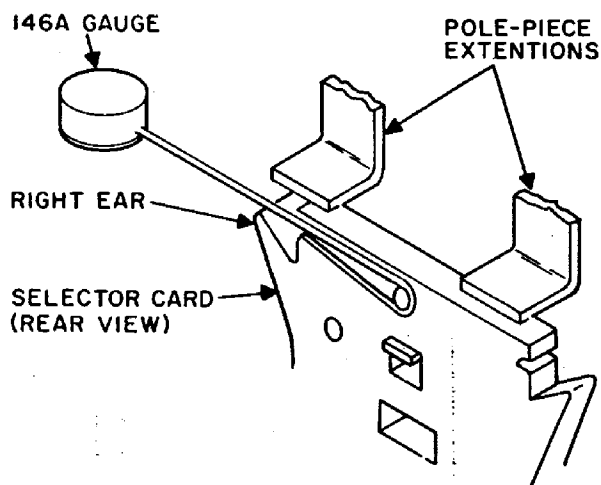

Figure 5. Use of 146A Gauge for Bias Margin Test.
- (1) To test collect operation, place WECO 146A gauge on the right side of the selector card as shown in Figure 5. Push the relay leads aside so that the gauge can move freely.
- (2) Trip the coin trigger, listen for dial tone, and dial the testboard, local operator, or (where provided) the paystation test circuit. Ask or dial the code for application of +110 volt collect potential. The right end of the selector card magnet should operate the hopper vane to the collect position. To check this, look down the hopper throat. If the booth is too dark to see, shine a flashlight at the coin return opening at the lower left